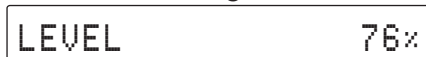

Figure 1
1. Press the STANDBY/ON Push-button on the Front Panel or press the  (Power) Push-button on the Remote Control to switch On the D100. The D100 will go through a brief startup initialization with the Front Panel Information Display indicating the Level percentage (Volume) and then the last used Input Source. Refer to figures 1 and 2.